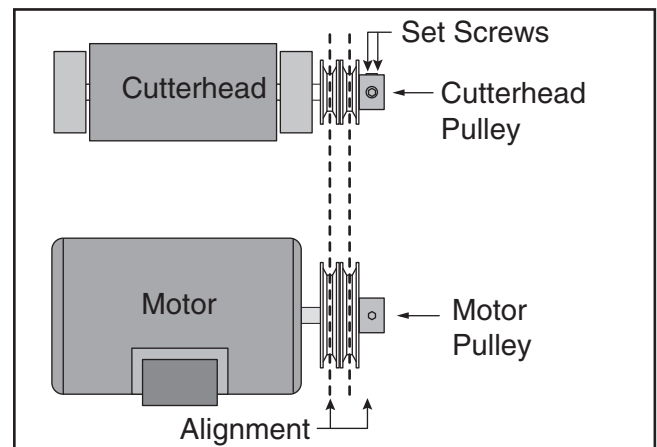

Figure 66. Pulleys properly aligned.
5. Loosen the set screws on the end of the cutterhead pulley, align the cutterhead pulley with the motor pulley (see **Figure 66**), then retighten the set screws.